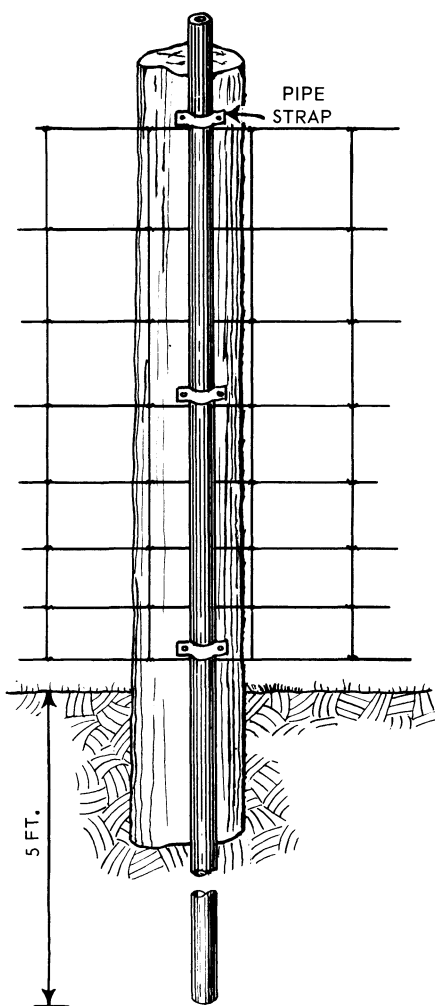

Figure 16.—Wire fence grounded by driving a steel pipe into the ground.
2. Drive $\frac{1}{2}$ - or $\frac{3}{4}$ -inch steel rod or pipe 5 feet into the ground alongside wooden fenceposts at 150-foot intervals. Allow a few inches of the ground rod or pipe to extend above the top of each post. Fasten the rods or pipes to the posts with pipe straps so that they touch all the fence wires (fig. 16).